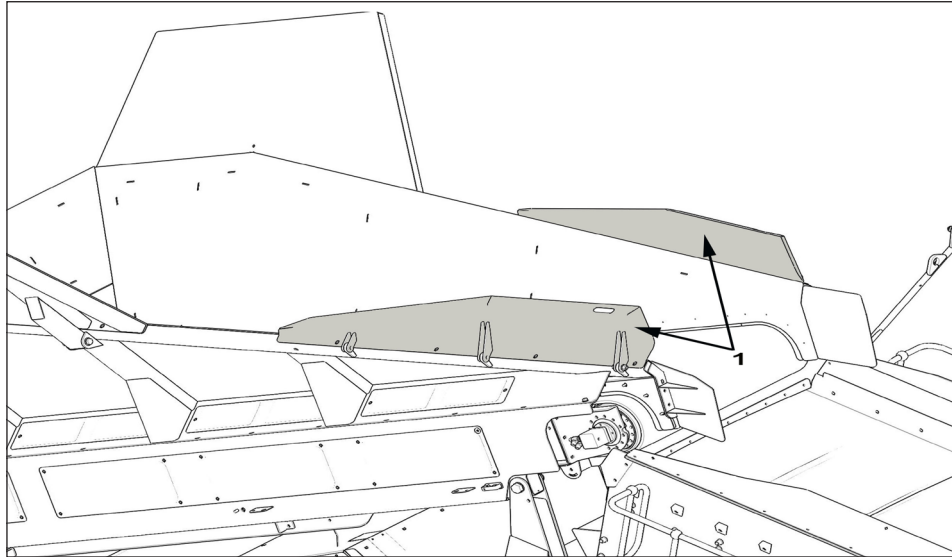

Figure 4.92 - Feeder Conveyor Wing Plates
4. Rotate both wingplates into working position as shown in Figure 4.92 Items (1).